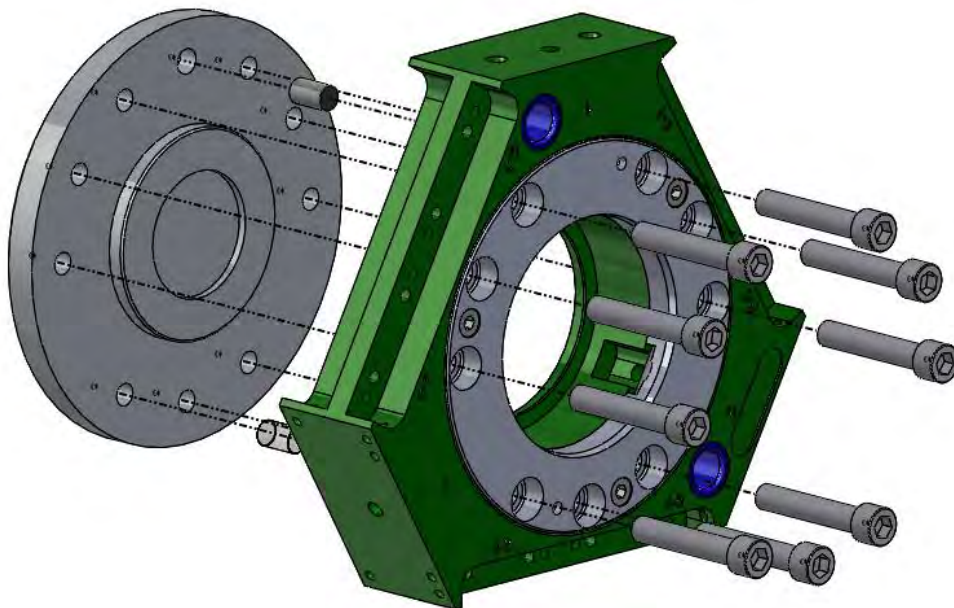

Figure 5.2-2. E160 Tool Adaptor Installation (Bolt Top Down)
1. Locate the Tool Adaptor to the tool plate utilizing either the locating hub and one (1) M12 locating dowel, or two (2) M12 locating dowels (Figure 5.2-2).